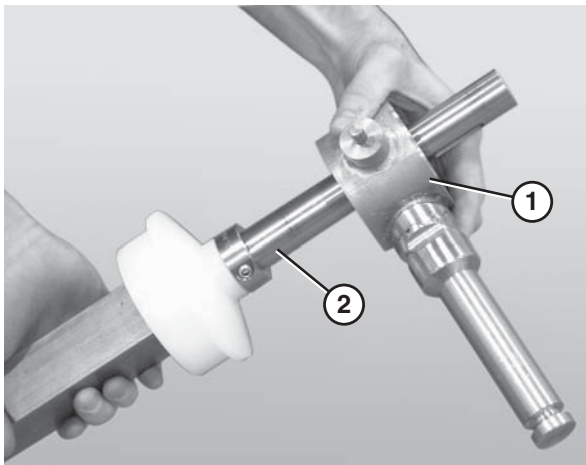

Figure 75
9. Slide the second bearing shaft assembly, or the motor mount bracket (**Figure 75, item 1**), onto the longer end of the drive spindle (**Figure 75, item 2**).